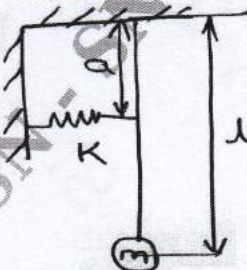

Fig.Q3(b)
b. Determine natural frequency of the system shown in Fig.Q3(b) by: